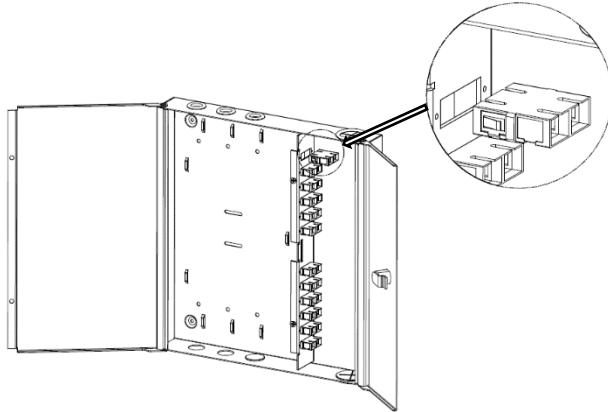

Fig.4
- Place Duplex SC/Quad LC fiber snap mount adapters into the adapter plate as shown (Fig.4) and for Flange mount adapter fix, adapter plate needs to remove from enclosure and Fix the Flange adapters with screws. loaded adapter plate place into the enclosure, (Note: Adapters are need to be order separately)